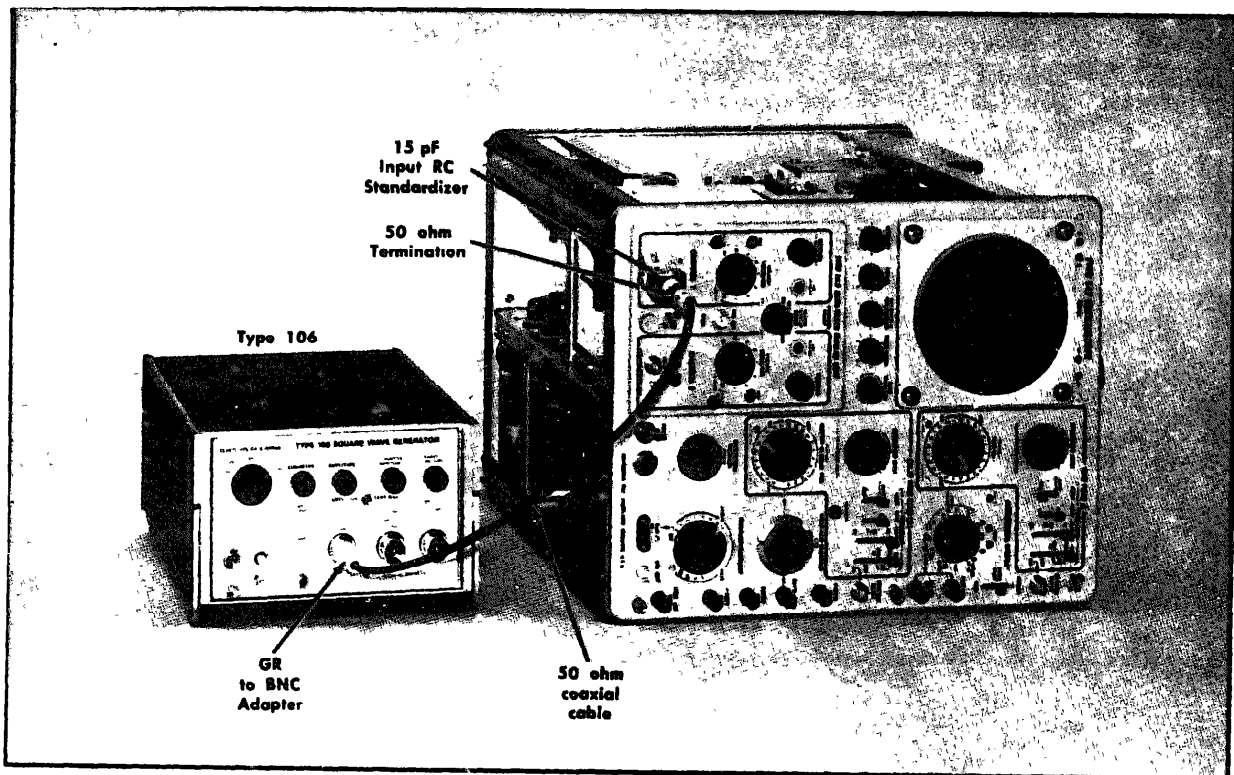

Fig. 7-9. Initial equipment setup for step 19
a. Equipment setup is shown in Fig 7-9